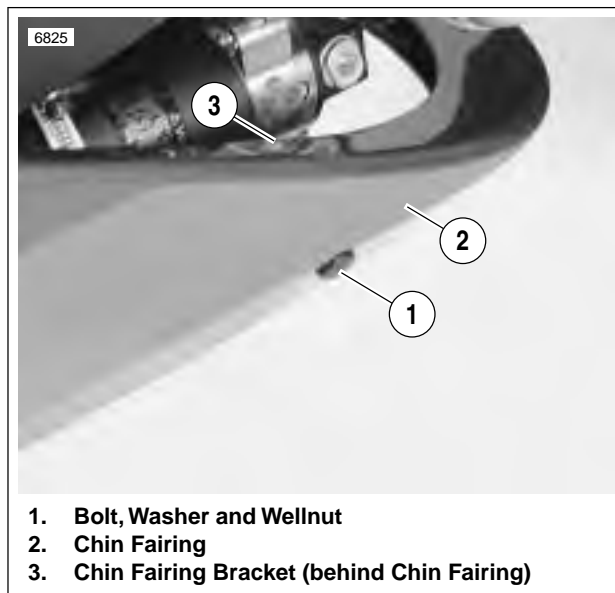
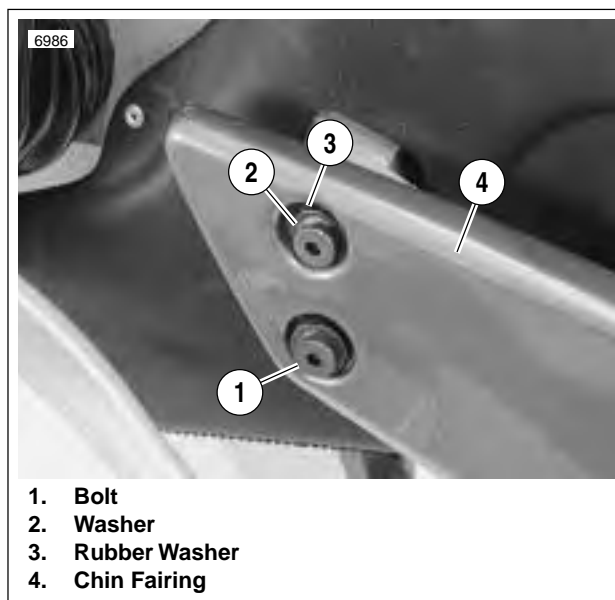

Figure 2-120. Chin Fairing Bracket
Figure 2-121. Chin Fairing, Right Side
2. See Figure 2-120. Remove bolt, washer and wellnut (1) securing chin fairing (2) to chin fairing bracket (3).
3. See Figure 2-121. Remove two bolts, washers and rubber washers from right side of chin fairing.
1. See Figure 2-120. If removed, install chin fairing bracket (3) on shock mounting hardware. See 2.21 REAR SHOCK ABSORBER.
2. See Figure 2-121. Install right side mounting hardware.
- a. Install washer (2) and rubber washer (3) on bolt.
3. See Figure 2-120. Loosely install bolt, washer and wellnut (1) to attach chin fairing (2) to chin fairing bracket.